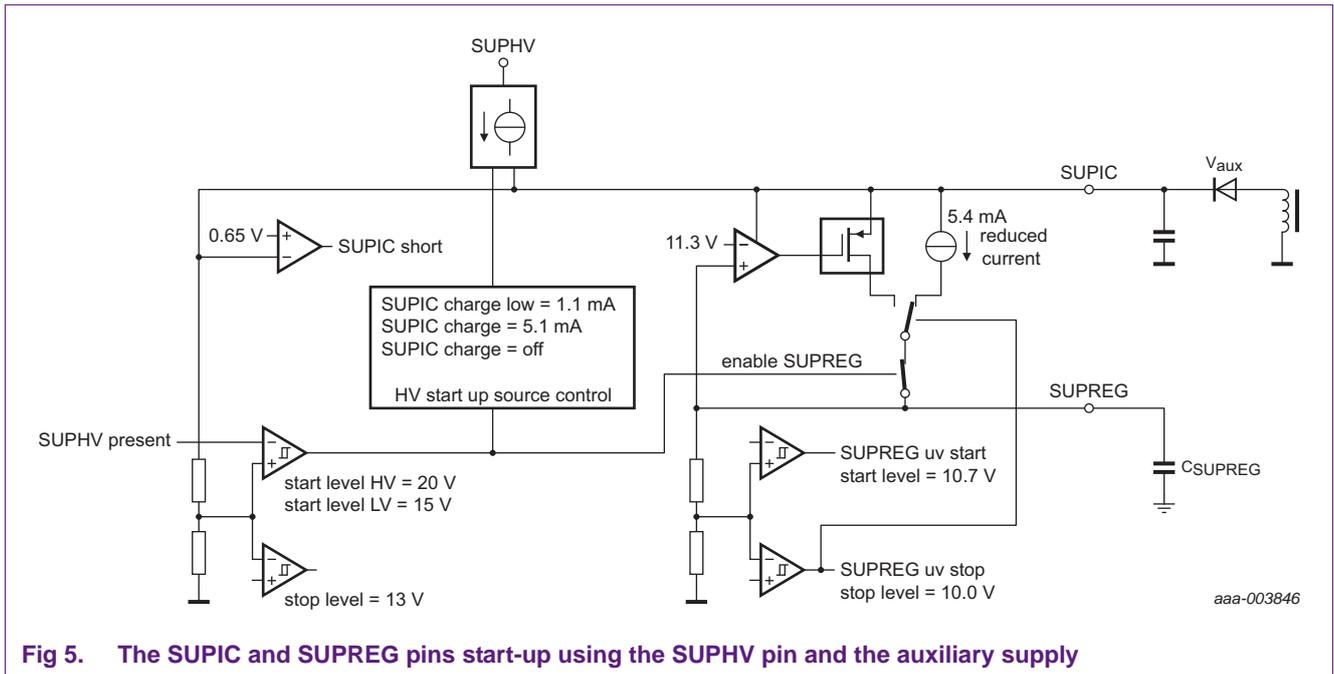

Fig 5. The SUPIC and SUPREG pins start-up using the SUPHV pin and the auxiliary supply
- During burst mode operation and because of the supply's low current consumption, the bursts repetition frequency can become very low (for example at no output load). This behavior can cause an imbalance in the half-bridge switching leading to a serious drop in the auxiliary supply for the SUPIC pin. To maintain the HBC load balance and avoid the extra SUPIC pin voltage drop, replace the single-side rectified auxiliary supply (see Figure 5) with a center-tapped construction. The center-tapped construction comprises two windings and two diodes.